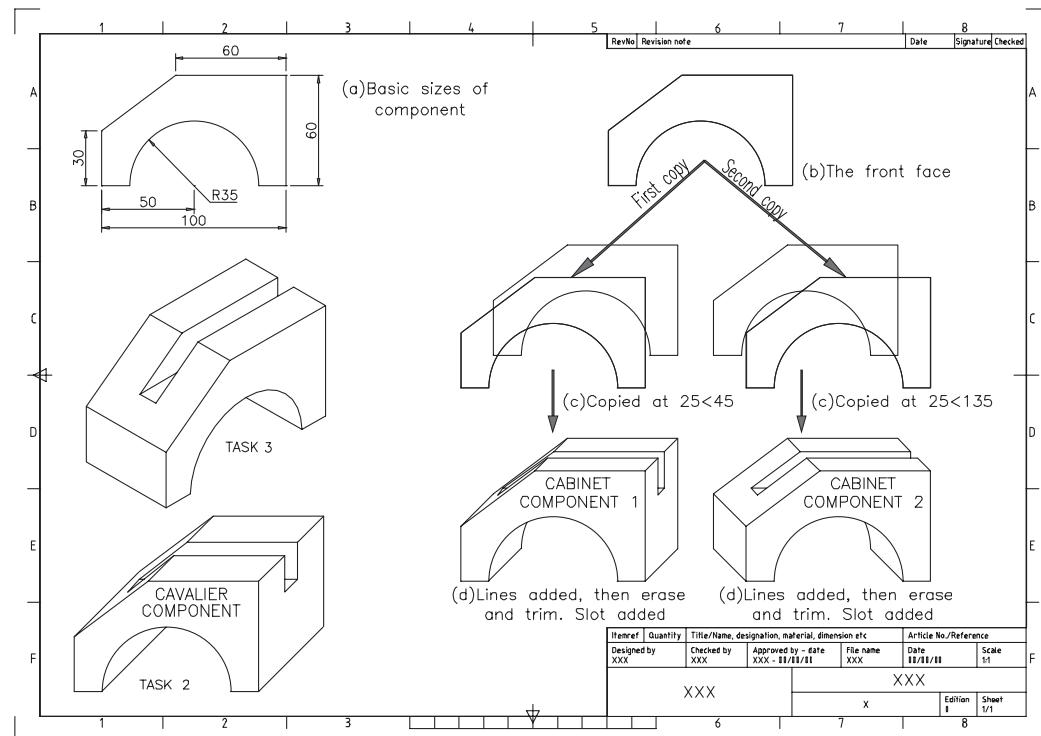

Figure 32.5 Creating an oblique pictorial.
- b) refer to Figure 32.5 and using the sizes in Figure 32.5(a), create the front 'face' of the component – Figure 32.5(b)
- b) the other complete front face from an endpoint by 25<135 – Figure 32.5(c).
- 8 Draw in the edge lines then erase and trim unwanted objects to display the complete component – Figure 32.5(d).
- b) add this slot to the two oblique Figure 32.5(d) pictorials – no help.